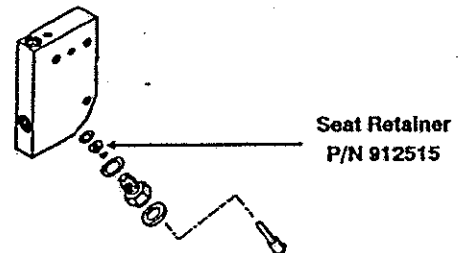

Figure 1.
6. Remove main shut-off parts as shown in Figure 1 and install new Seat Retainer, P/N 912515.